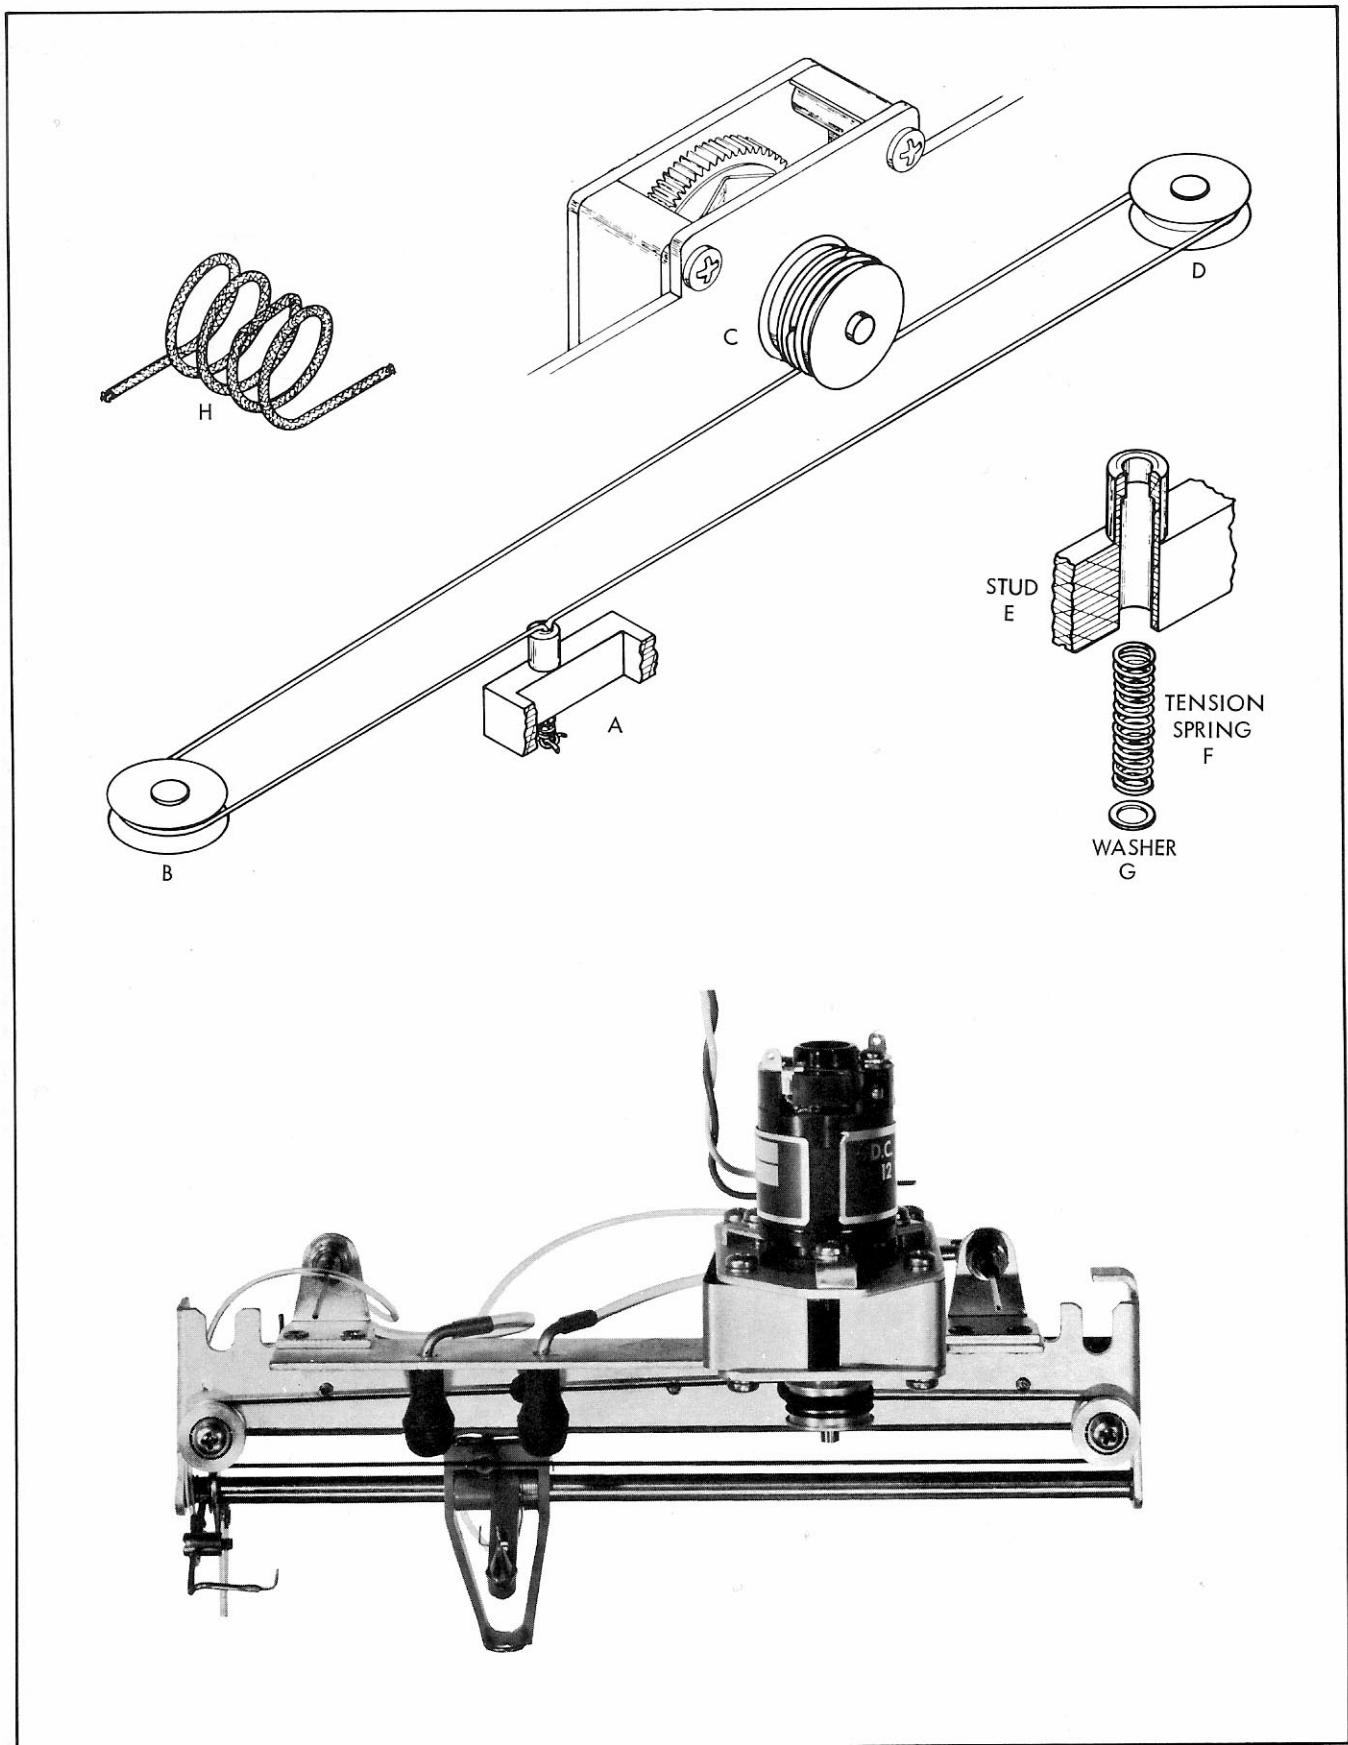

FIGURE 5-11. RESTRINGING DIAGRAM
b. Place the assembly in an inverted position with the motor away from the operator, as illustrated in figure 5-11.
d. Insert one end of a piece of nylon drive cable at least 20 inches long through the pen block stud (E), tension spring (F), and washer (G).
e. Proceed from this assembly point (A) around the pulley (B) to drive sheave (C). The drive sheave should be positioned against its stops in the CW direction. The small hole in the drive sheave should be approximately horizontal.
h. Continue around pulley (D) and back to assembly point (A).
j. Loosen the starting end of the cord from the washer (G) and take up slack by drawing on both ends at once.
k. With the tension spring in compression and the washer flush with stud (E), tie the ends of the cord together in a knot large enough to prevent slipping through the retaining washer (G).